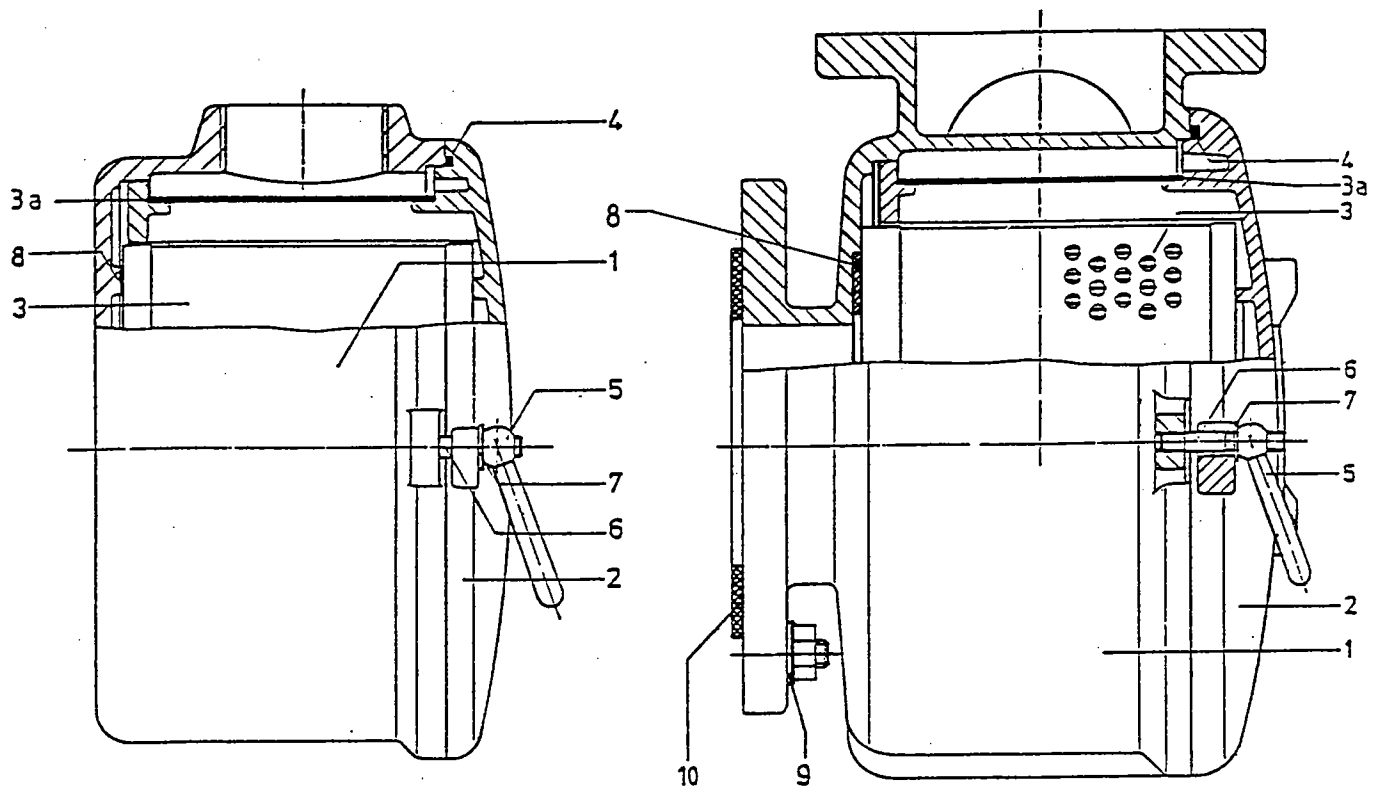

Fig. 28
12.7 Because of the oblong bore holes at the flanges of the vacuum filter types SFA 3 and SFA 4, the washers delivered (according to DIN 9021) having a greater outer diameter (Fig. 28 ; Pos. 9) must be used with the clamping bolts or nuts.